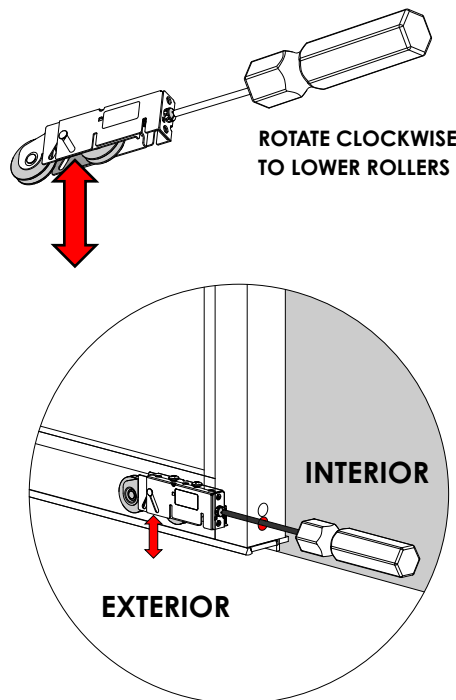

FIG 46
- Remove lower Hole Plug only on each end of the panel. **[FIG 46]**
- Remove lower plug on each end of the panel. **[Refer FIG 46]**